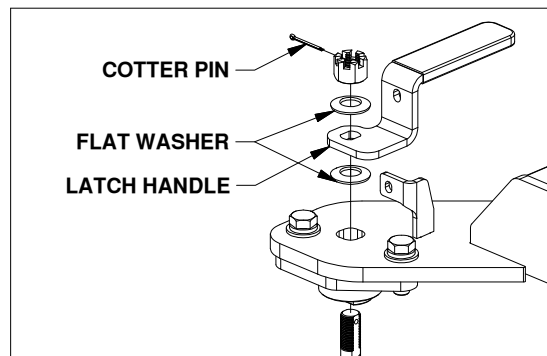

Figure B5: List of latch parts.
- Adjust the tension in the latch handle,** for parts list and visual guide refer to Figures B5 and B6.